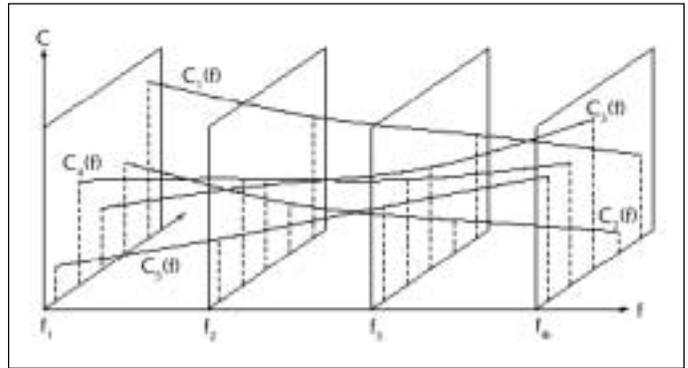

Figure 5. Calculation of coefficients of orthogonal multinomials over the entire frequency range.
4. Using the models built in (1), the coefficients can be calculated over the whole frequency range (see Figure 5). These coefficients, together with the orthonormal multinomials, are stored in a database for use during extraction afterwards.